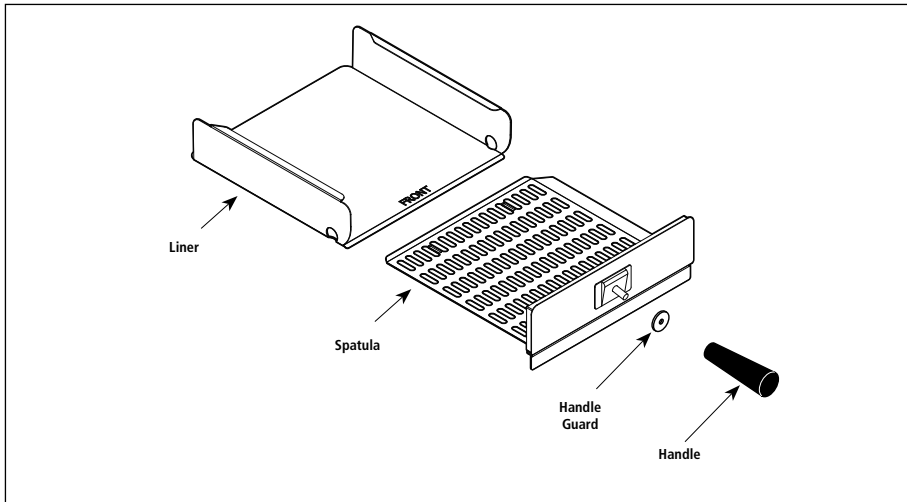

Figure 1. CM-100 Spatula
4. Remove and wash the Spatula and Liner (Figure 1) in soap and water by hand. Rinse with clean water and allow to air dry.
6. Assemble the Handle and Handle Guard to the Spatula (Figure 1).